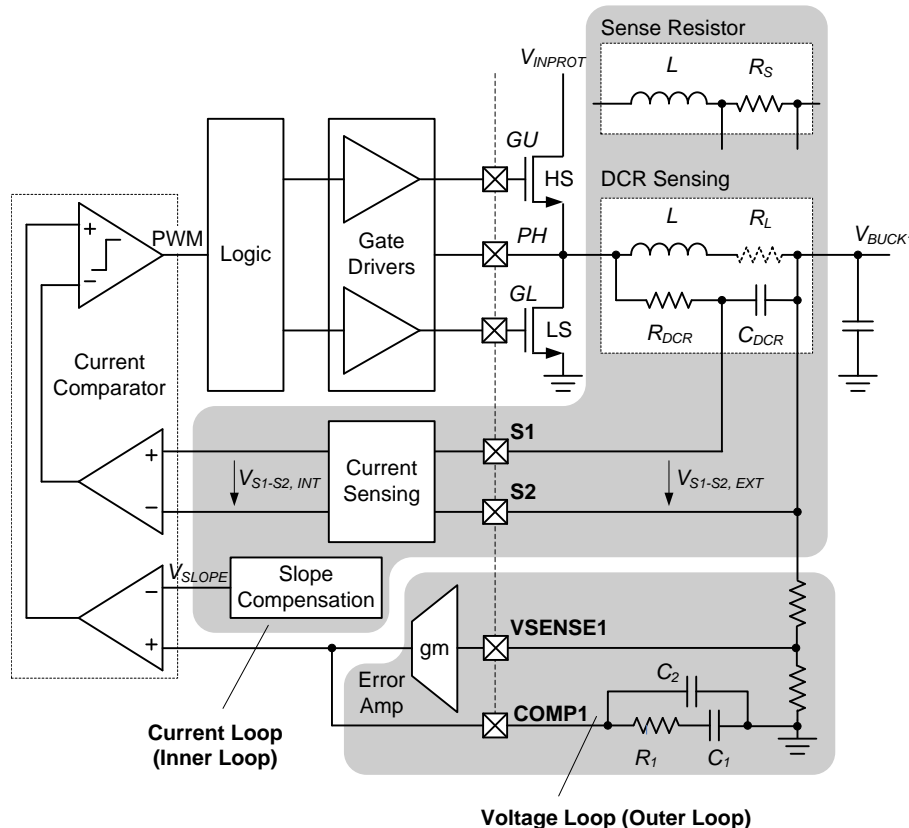

Figure 16. Detailed Block Diagram of Buck 1 Controller
The current sense pins S1 and S2 are high impedance pins with low leakage across the entire V_{BUCK1} range. This allows DCR current sensing (see Figure 16) using the DC resistance of the inductor for better efficiency.
2. Choose R_1 (see Figure 16)
3. Choose C_1 (in series with R_1 , see Figure 16) to set the zero frequency close to $F_{BW} / 10$
4. Choose C_2 (parallel with R_1, C_1 , see Figure 16) to set the second pole below $f_{SWBUCK1} / 2$